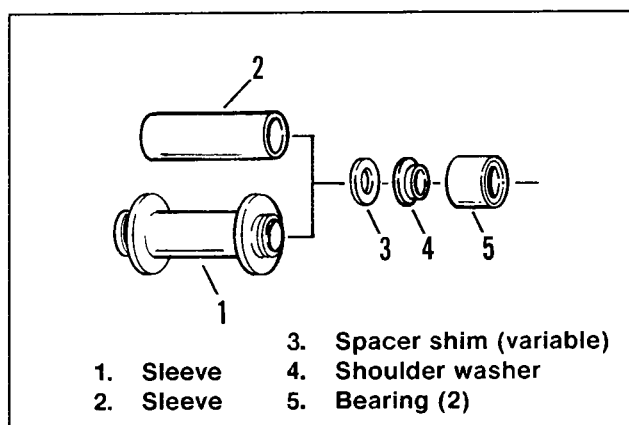

Figure 1. Wheel Bearing Sleeve
See Figure 1. As of May 15, 1991, all wheels are using FLT-style sleeves (1 and 2) and spacer shims (3) to adjust wheel end play. When installing wheel bearing components, make certain smaller O.D. side of shoulder washer (4) faces toward bearing (5). The charts which follow show the bearing sleeves and spacers used on the different sizes and styles of wheels.